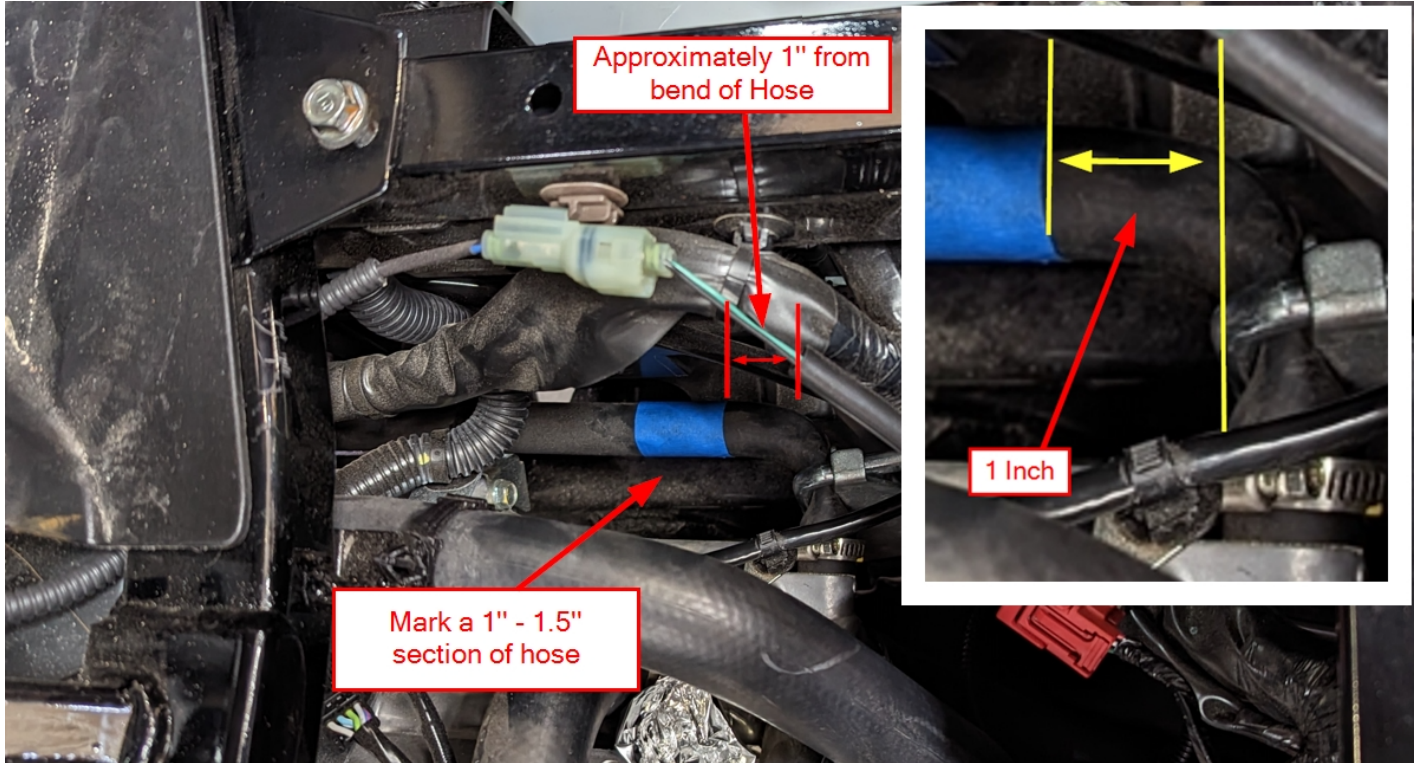

Figure 18a
- d. If Hose Clamp Off tools are available, use them to clamp on both sides of the 3-Way Valve shown in Figure 18a, 18b, 18c. Cut the hose and insert the 3-Way Valve. Attach the 6' Piece of 5/8" Heater Hose and Secure it using two #6 Hose Clamps and one #10 Hose Clamp. If Hose Clamp off tools are not available, the coolant will need to be drained, if kept clean it can be reused.